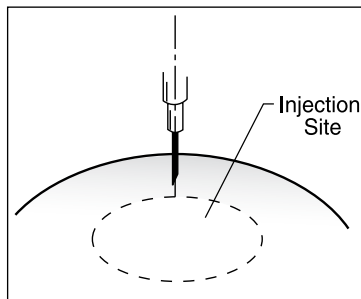

FIGURE 5
Step 1: Insert a new, sterile 21-gauge (or smaller) standard bevel hypodermic needle into injection site (one 21G Needle Infusion Set is provided with the Tissue Expander for the first session). Ideally, the needle should enter perpendicular to the top of the injection site as shown in **Figure 5**.